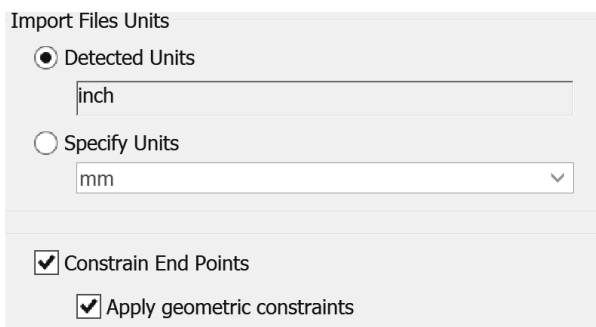

Figure 2.93
**11** Check the Constrain End Points and the Apply geometric constraints options as shown in Figure 2.93.